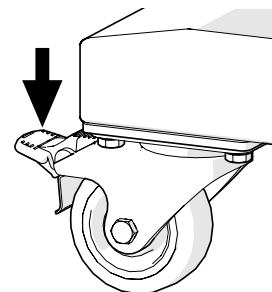

Fig. 25: Wheel brake
- Fasten the machine to its installation site, in order to secure it against unintended movement. To do this, press the wheel brake down onto the frame by foot (see Fig. 25). Before each transport, release the wheel brake by pulling it up.